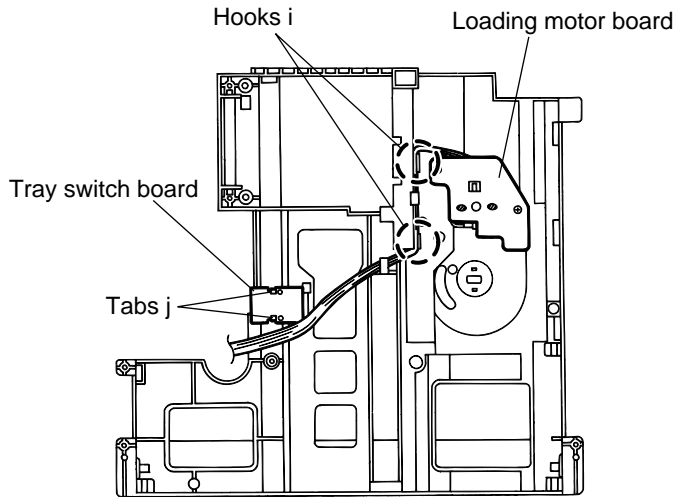

Fig.26
**CAUTION:** When reattaching the loading motor board, settle the wires on the two hooks **i** on the loading base assembly and draw the other end to the left as shown in Fig.26.
**■ Removing the tray switch board (See Fig.26)**